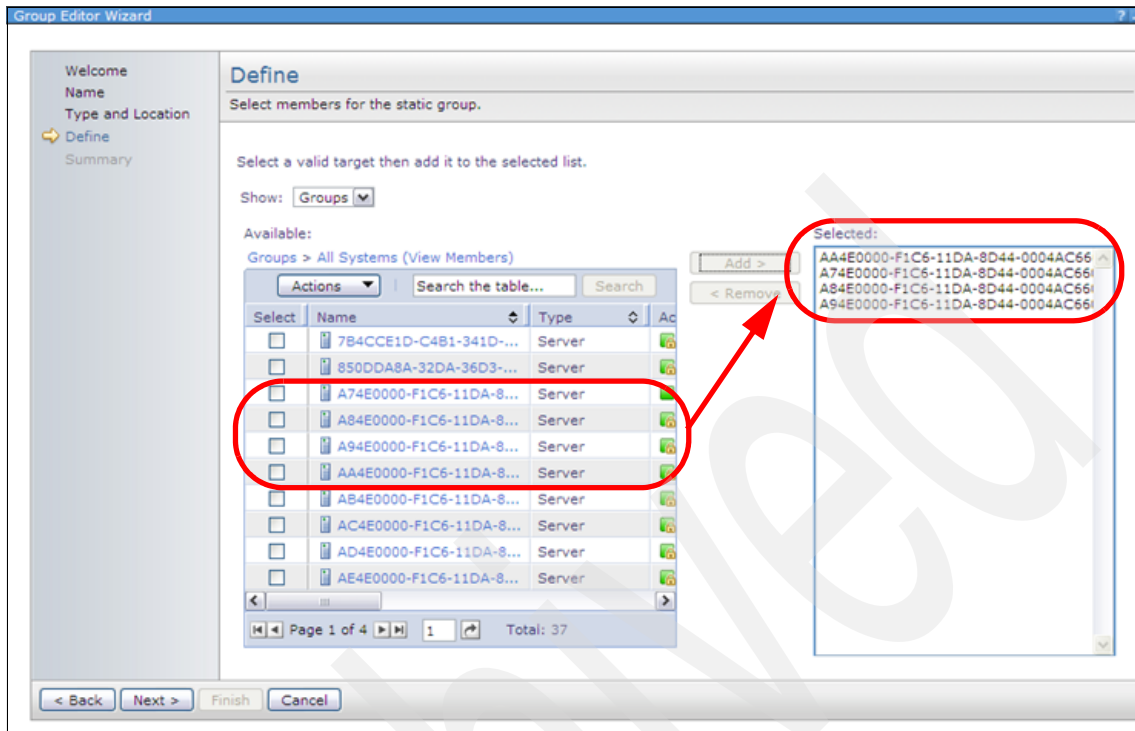

Figure 4-26 System selection to locate in Group
4. On the Define page, shown in Figure 4-26 on page 136, select one or more groups of resources from the Available list, and click **Add**. You can drill down into a group and select one or more resources. If you want to remove a group or resource, select it from the Selected list, and click **Remove**. Click **Next**.